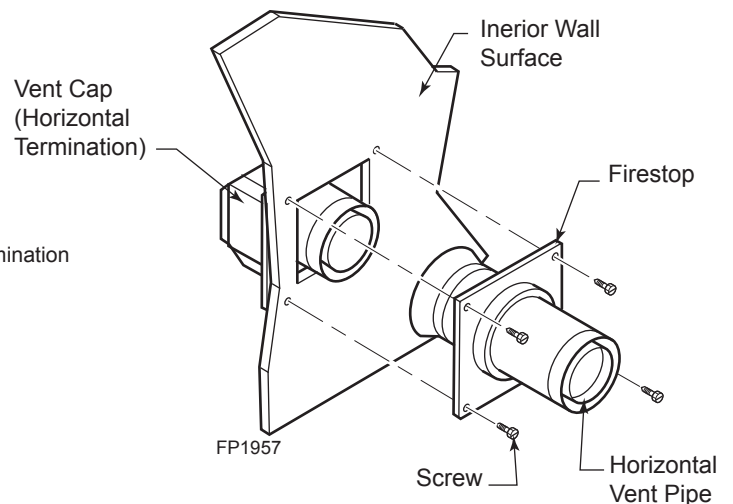

**Figure 17 -
- Apply a bead of non-hardening mastic around the outside edge of vent cap. Position the vent cap in the center of hole on the exterior wall with the word "UP" on the vent cap facing up. Insure proper clearance of 1" to combustibles is maintained. Attach the vent cap with four (4) wood screws supplied. *Figure 17*